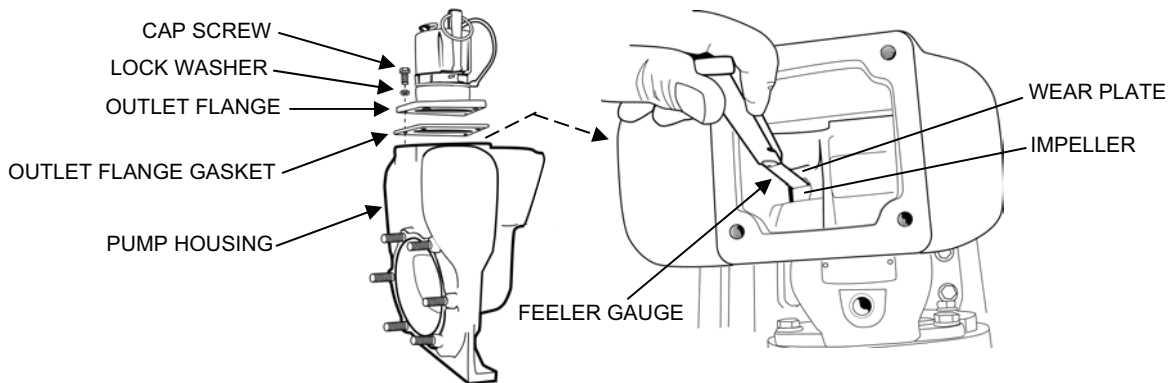

Figure 16. Pump Impeller Clearance Adjustment.
5. Set the gap between the impeller and the pump wear plate as follows (see Figure 16):